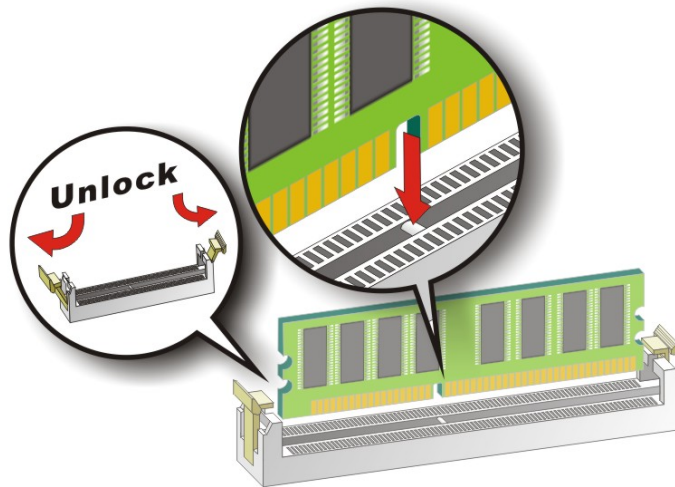

Figure 4-6: Installing a DIMM
To install a DIMM into a DIMM socket, please follow the steps below and refer to Figure 4-6.
- Step 1: Open the DIMM socket handles.** The DIMM socket has two handles that secure the DIMM into the socket. Before the DIMM can be inserted into the socket, the handles must be opened. See Figure 4-6.
- Step 2: Align the DIMM with the socket.** The DIMM must be oriented in such a way that the notch in the middle of the DIMM must be aligned with the plastic bridge in the socket. See Figure 4-6.
Step 3: Insert the DIMM. Once properly aligned, the DIMM can be inserted into the socket. As the DIMM is inserted, the white handles on the side of the socket will close automatically and secure the DIMM to the socket. See Figure 4-6.